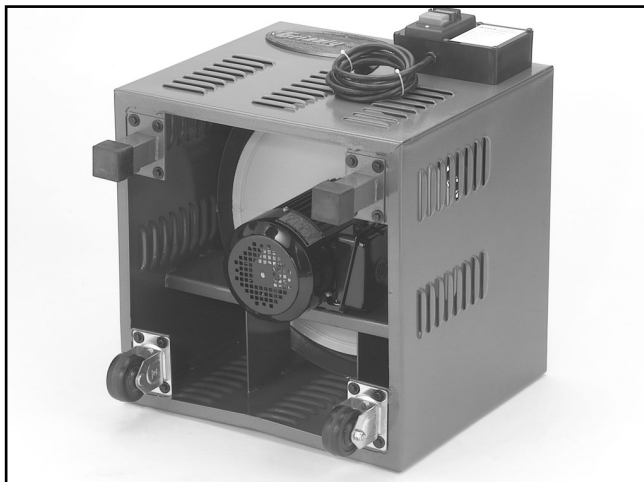

Figure 11. Casters and feet installed on motor cabinet.
3. Attach both casters to the bottom rear of the motor cabinet with 8 hex bolts, 16 flat washers and 8 hex nuts. (See assembly in **Figure 11.**)